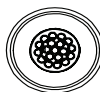

fig.20
If the appliance has an auto-drainage system, there is no plug to open. Instead, ensure that the drainage filter is cleaned. See fig. 20
***This is why it is an important SOP procedure, to regularly ensure that the drain filter fig.20 is clean and free from dirt and waste.***